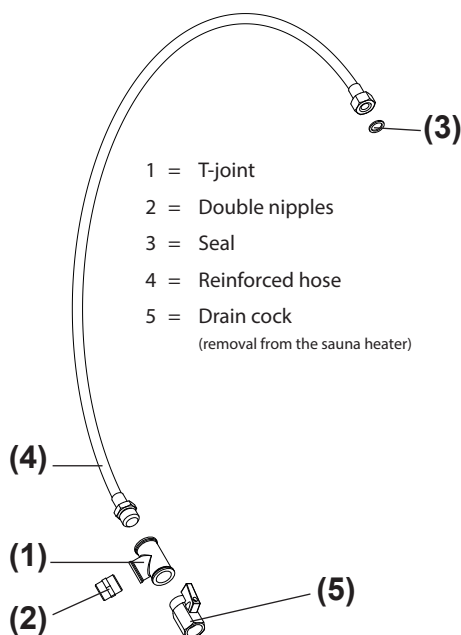
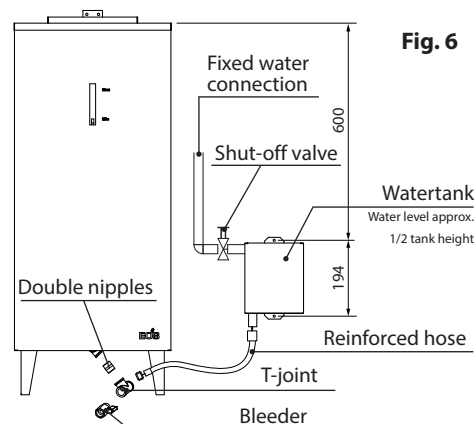

Abb. 2
Fig. 6
- Drill the fixing holes $\varnothing$ 3.4 mm according to the sizes in fig. 6
- Make the connection between the water tank and vaporiser according to fig. 2 and fig. 6. Screw in the drainage tap instead of the stoppers (2) (fig. 2).